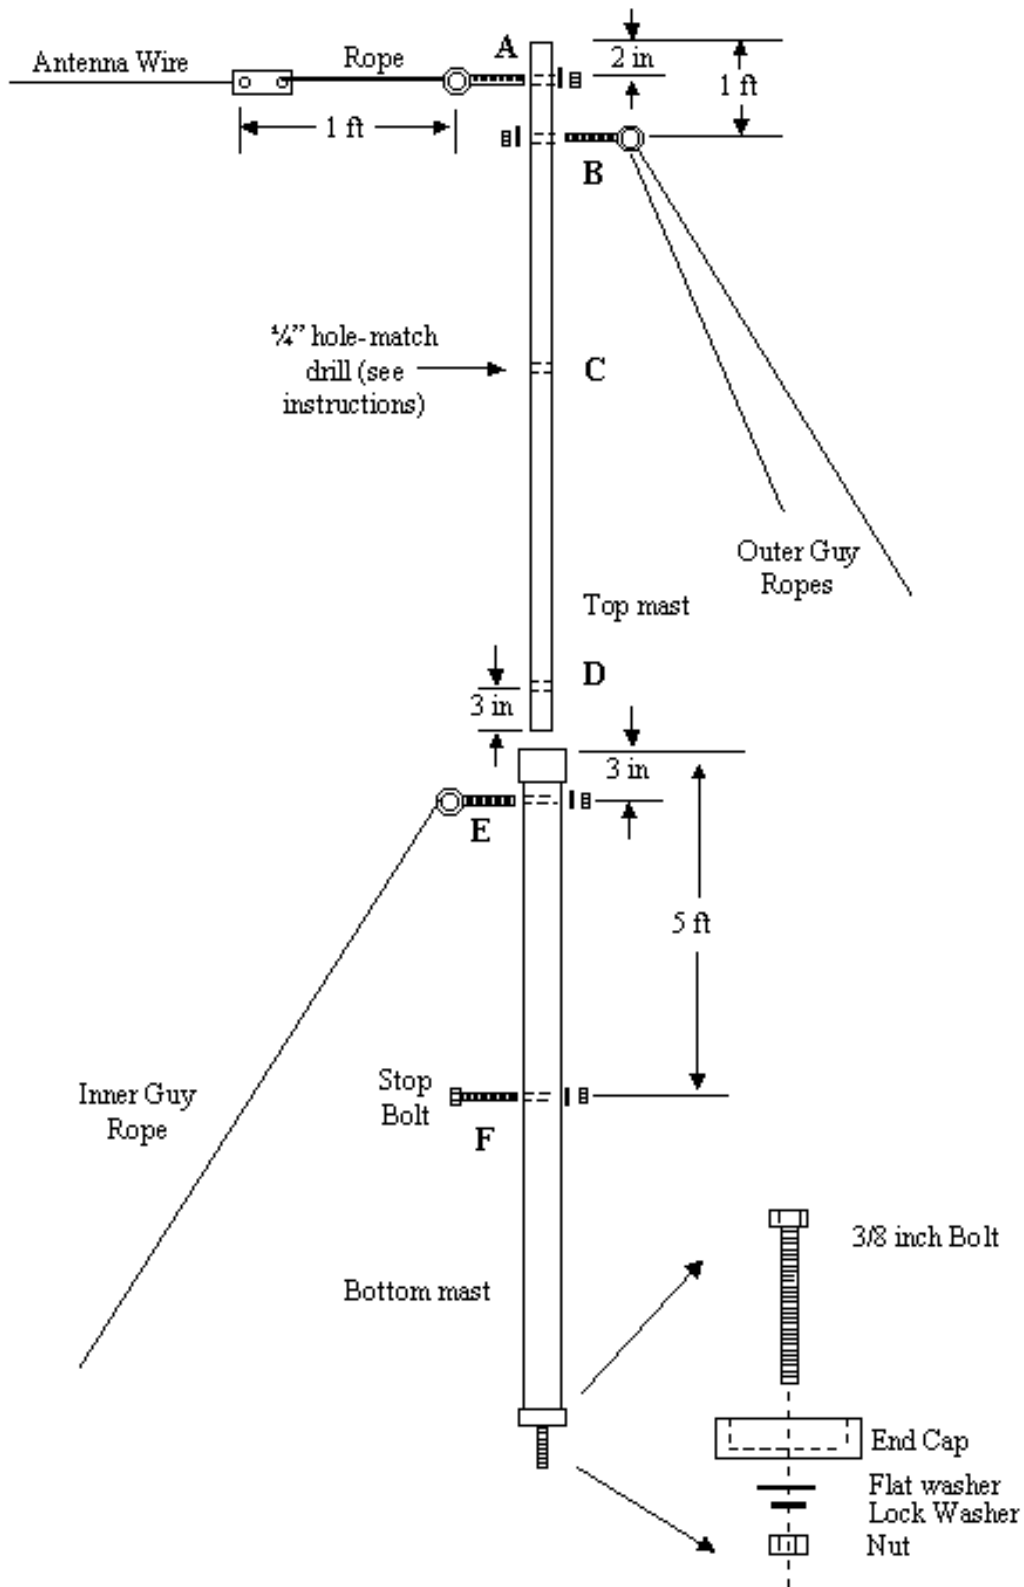

Figure 6.2 – PVC Mast Assembly.
- A. *For the PVC mast installation refer to Figures 6.2 and 6.3.* Cut 8 ropes to 24-feet. Attach 2 ropes to each of the eyebolts at the 19 ft level (hole B). Cut 4 ropes to 19-feet and attach each to an eyebolt at the 9-foot 9-inch level (holes D/E).